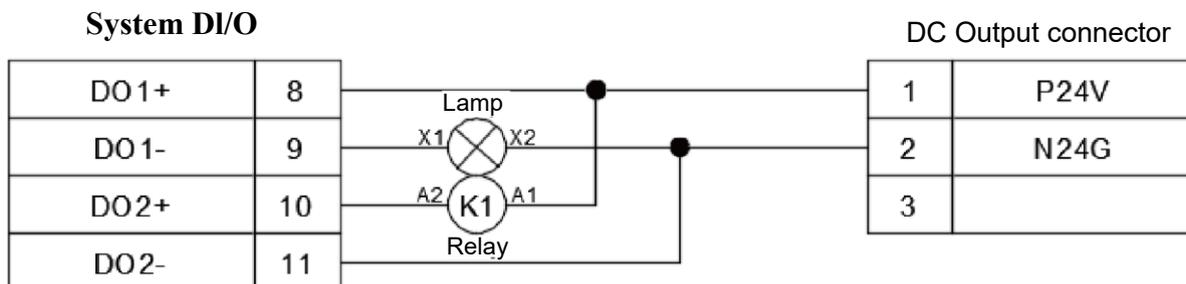

Figure 5.27 System DO DCV controller voltage mixed output wiring
- Figure 5.27 shows the mixed NPN and PNP wiring method. This figure uses PNP output wiring for the lamp and NPN output wiring for the relay.